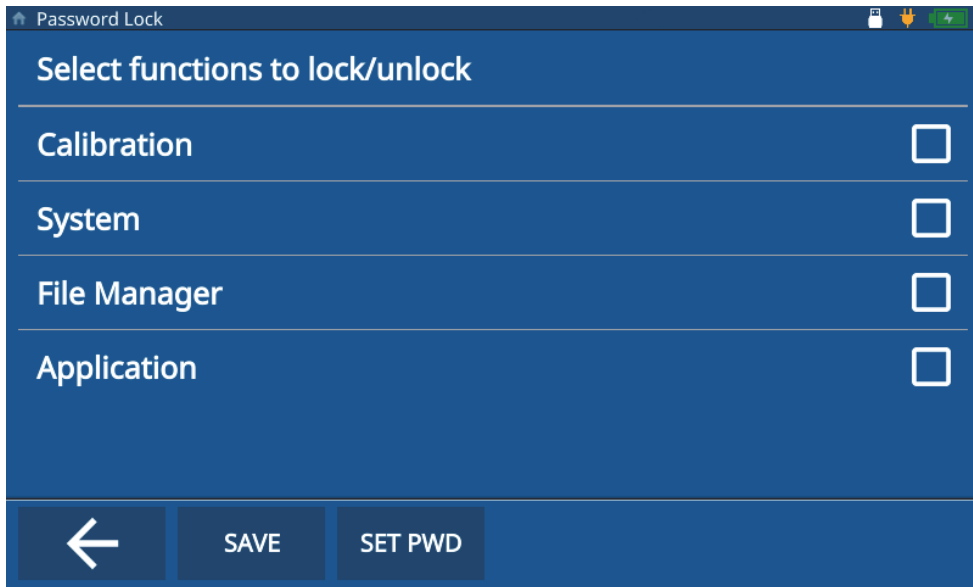

Figure 8-1 Instrument Lock screen
The Password Lock screen (see Figure 8-1 on page 72) allows you to lock the following features:
4. Select the functions to lock by checking the appropriate check-boxes (see Figure 8-1 on page 72).